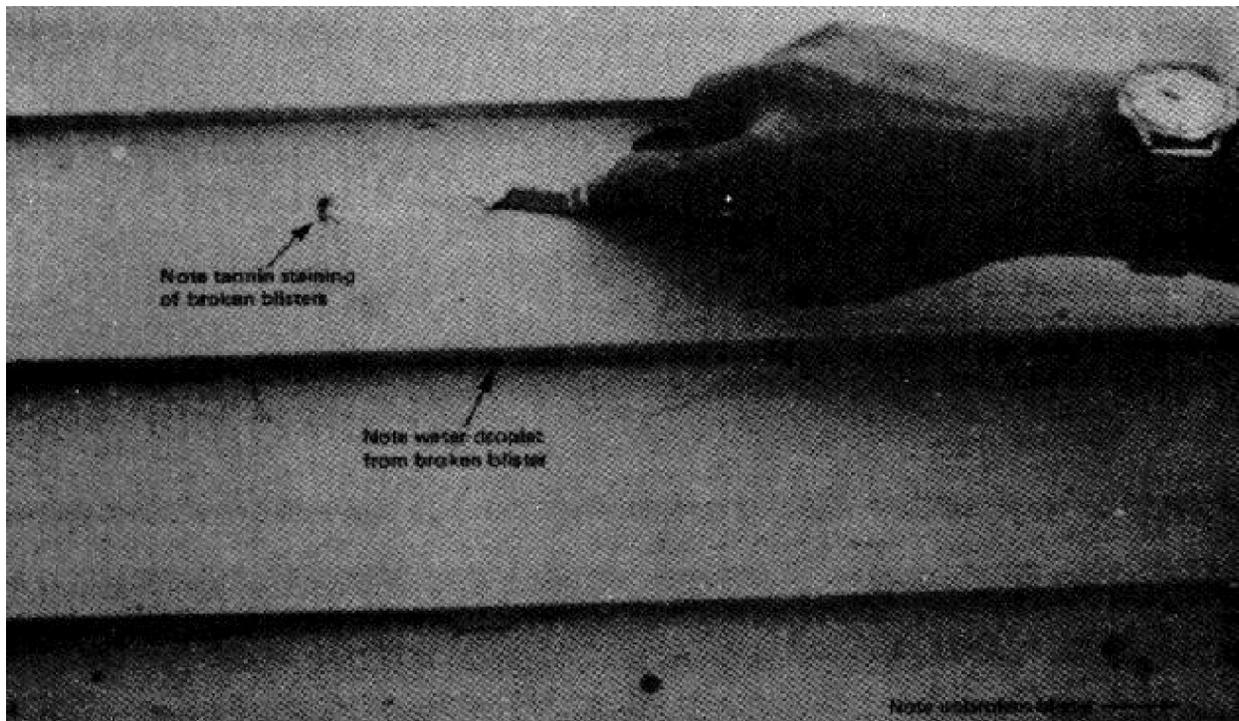

FIGURE 5-23
5.2.3.3 Rapid Temperature Changes. Sudden changes in temperature can create unexpected problems. A rapid drop overnight, just after painting, may cause a heavy dew or even frost to deposit on the paint film with consequent flattening. It may also retard drying so that dirt and insects can become embedded in the coating. Wrinkling can occur if the coat is excessively thick. A rapid increase in temperature may cause air entrapped in a porous substrate to increase in pressure and form dry blisters in the paint film. (See Figure 5-23.)